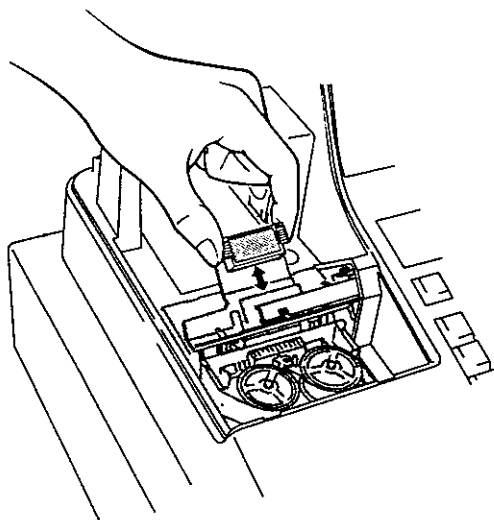

Fig. 7
- 3) Remove the Stamp from the Stamp Print Unit by pulling out toward the rear of the register with your fingers on the notches of both sides as shown in the figure. (Fig. 7)